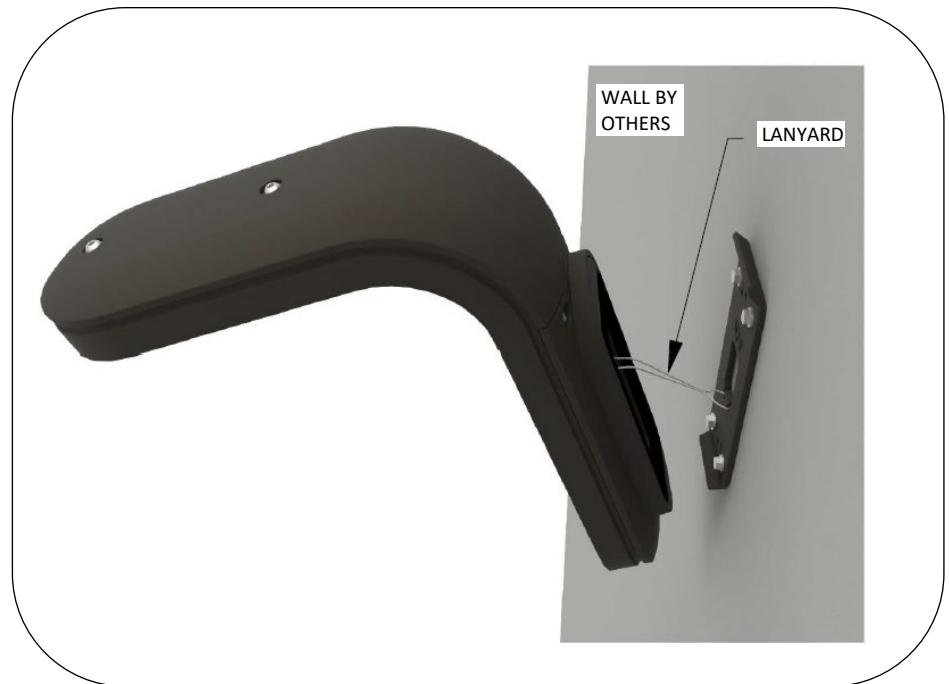

Fig. 7 – lanyard use
9. Make wiring connections by connecting the harness quick disconnects. Note: luminaire has a lanyard installed to allow for hanging the unit from the wall mount bracket while making wiring connections. See Fig. 7.